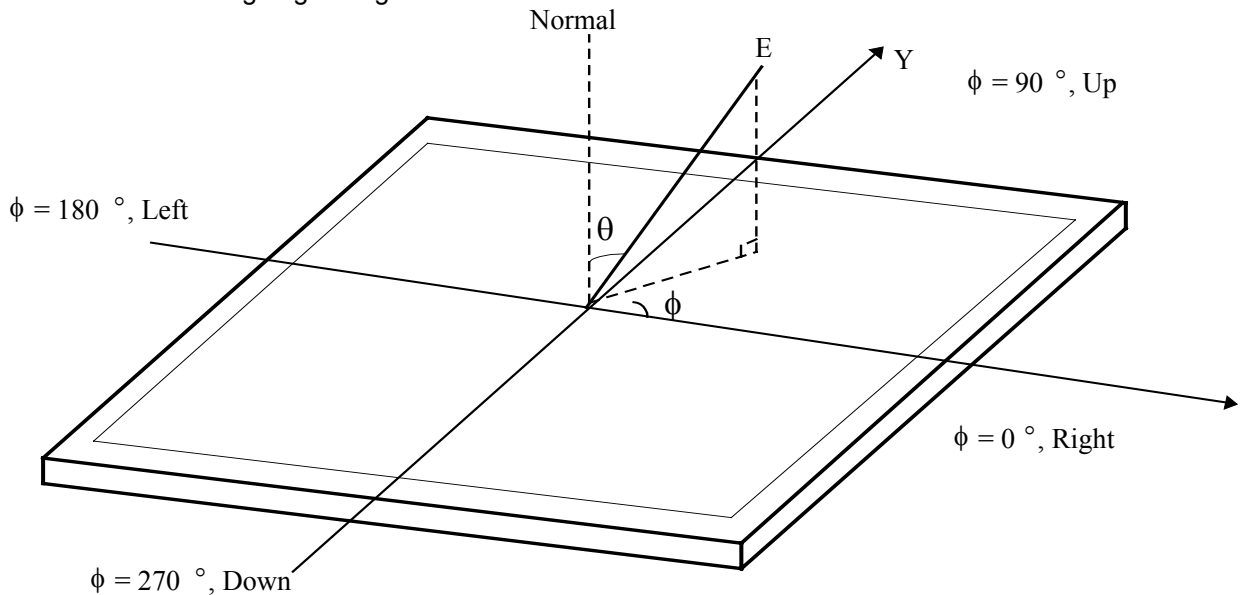

FIG. 5 Viewing angle
6. Viewing angle is the angle at which the contrast ratio is greater than 10. The angles are determined for the horizontal or x axis and the vertical or y axis with respect to the z axis which is normal to the LCD surface. For more information, see FIG 5.